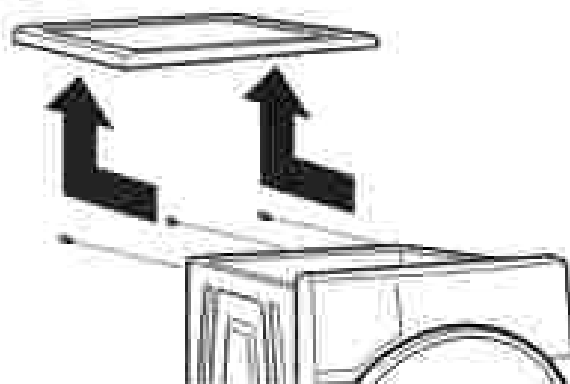

Figure 1
1. Remove the top of the washer by removing the three 1/4" hex-head screws in the back. Slide top back and up (see Figure 1).